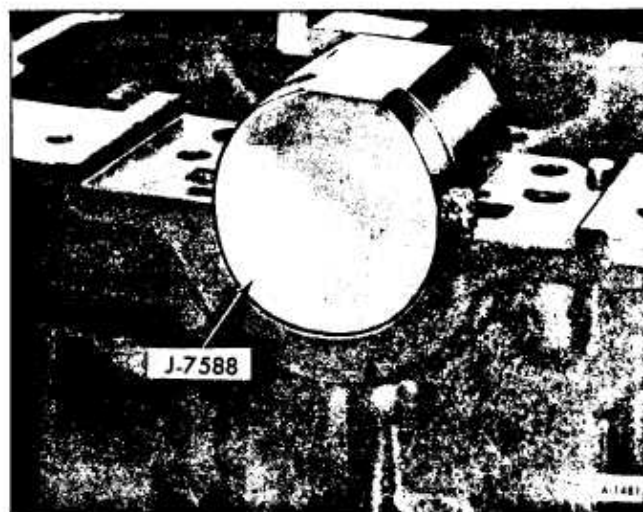

Figure 70—Installing Rear Main Seal—Upper Half
3. Install a new rear main bearing upper seal. Use tool J-7588 as shown in Figure 70.